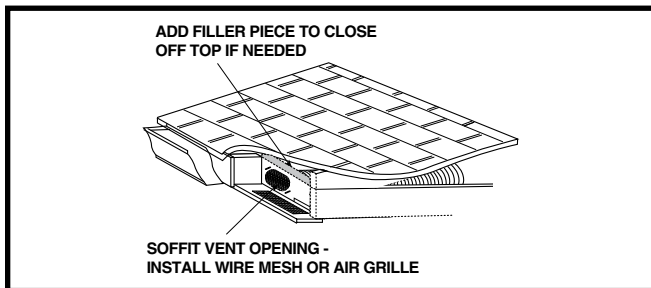

Figure 4. Installation Detail
- Cut a rectangular opening of at least 25 in² in the soffit between the roof trusses at the selected vent location. **NOTE:** A 4" x 8" opening is recommended. See Figure 4.
- Fill any space between the fitting and the roof surface with plywood or sheet metal to keep the soffit area free of insulation, as shown in Figure 4.